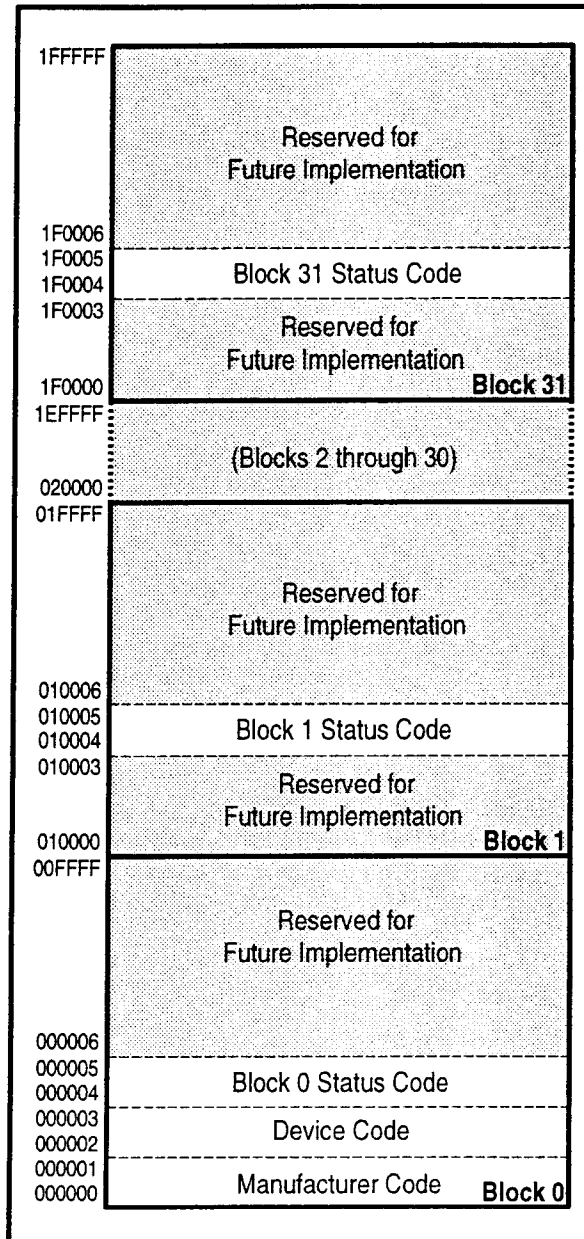

Figure 4. Device Identifier Code Memory Map
The read identifier codes operation outputs the manufacturer code, device code, block status codes for each block (see Figure 4). Using the manufacturer and device codes, the system CPU can automatically match the device with its proper algorithms. The block status codes identify locked or unlocked block setting and erase completed or erase uncompleted condition.
IA=Identifier Code Address: see Figure 4.
The identifier code operation is initiated by writing the Read Identifier Codes command. Following the command write, read cycles from addresses shown in Figure 4 retrieve the manufacturer, device, block lock configuration and block erase status (see Table 5 for identifier code values). To terminate the operation, write another valid command. Like the Read Array command, the Read Identifier Codes command functions independently of the  $V_{PP}$  voltage and RP# must be  $V_{IH}$ . Following the Read Identifier Codes command, the following information can be read:
1. X selects the specific block status code to be read. See Figure 4 for the device identifier code memory map.